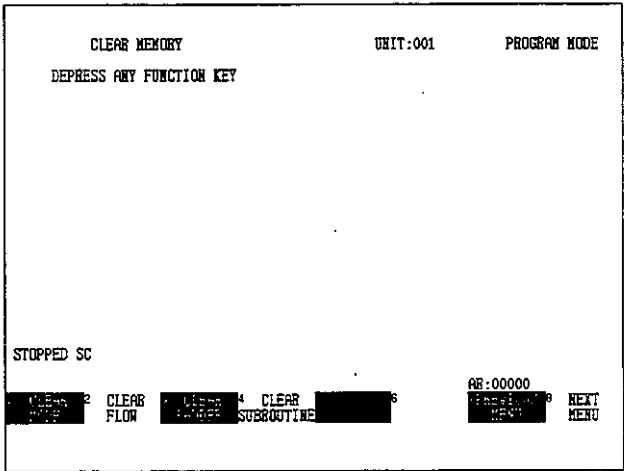
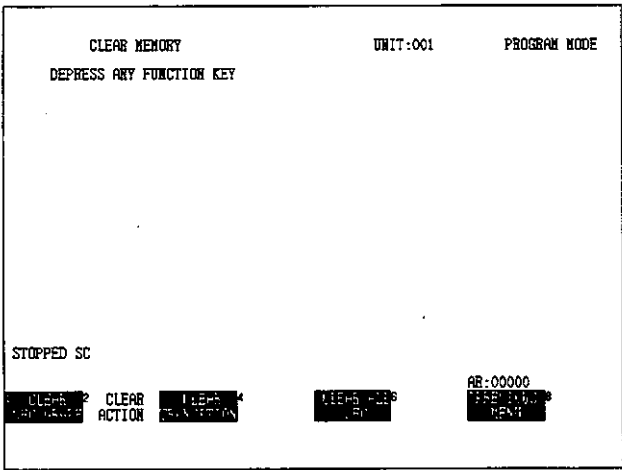

Figure 6.13
Figure 6.14
5) Select Clear Flow. The screen shown in Figure 6.14 will be displayed.
- (2) To clear the SFC, action, and transition memories all at the same time, select Clear All SFC as shown in *Figure 6.14*.
- (3) Selecting Previous Menu as shown in *Figure 6.14*, returns the screen to *Figure 6.13*.
- (4) Select Confirm and the selected memory will be cleared. If Cancel is selected instead of Confirm, no operation will be carried out and the screen will return to the one from which the Clear request was made.
- (5) See *Appendix A.2 Operational Messages* for information on the messages displayed.